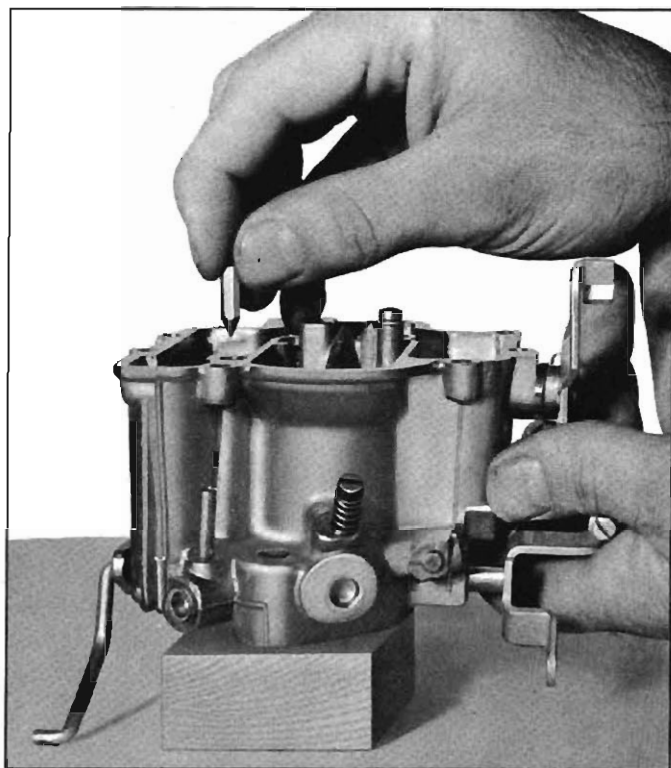

Fig. 9-19—Installing Pump Discharge Needle
4. Install pump discharge needle (fig. 9-19).